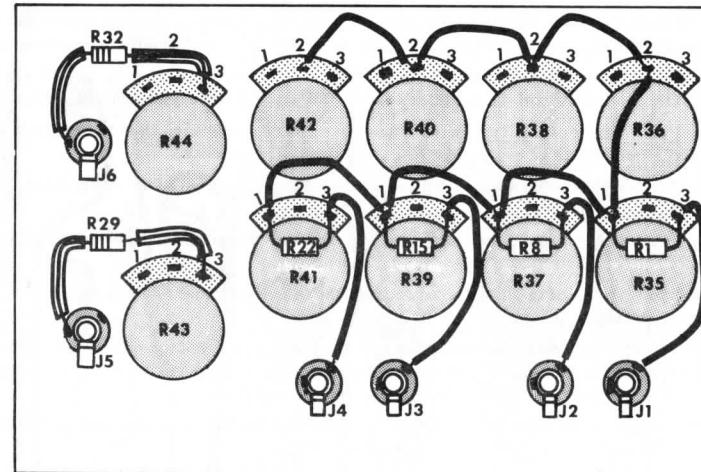

Figure 4
- () Mount 500K potentiometer R35 in the position shown in figure 4. Use two 3/8 inch nuts, one behind the front panel as a spacer and the second on the front side of the panel to secure the potentiometer. Adjust the rear nut so that none of the threaded shaft of the control is exposed when the front nut is tightened down. This will allow the control knob which will be mounted in a later step to seat as closely as possible to the panel. Orient as illustrated in figure 4.
- () Mount the miniature phone jack J1 in the position shown in figure 4. Fasten in place with the nut provided. Orient as illustrated.
- () Using a 1-1/2 inch length of insulated wire make the connection between lug #2 of R40 and lug #2 of R38 as shown in figure 4. Do not solder either connection at this time.
- () Install the previously prepared resistors between lugs #1 and #3 of potentiometers R35, R37, R39 and R41 as shown in figure 4. Do not solder any of these connections.
- () Using a 2 inch length of insulated wire make the connection between the "Hot" terminal of J1 and lug #3 of R35 as shown in figure 4. Solder both connections.